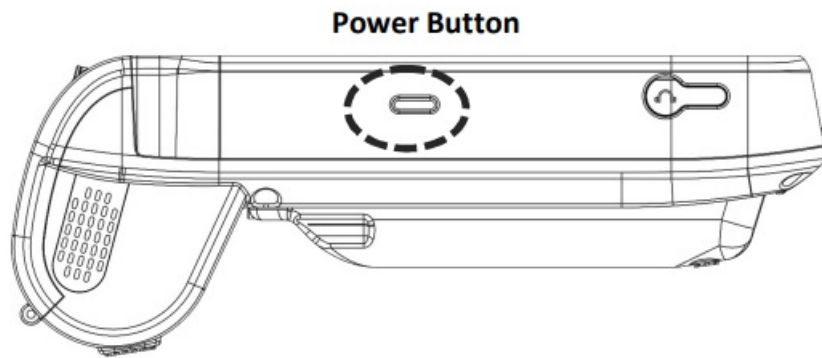

Figure 2
- To power on the device: Long press the Power button (Figure 2) > 3 seconds and the device screen will be activated.